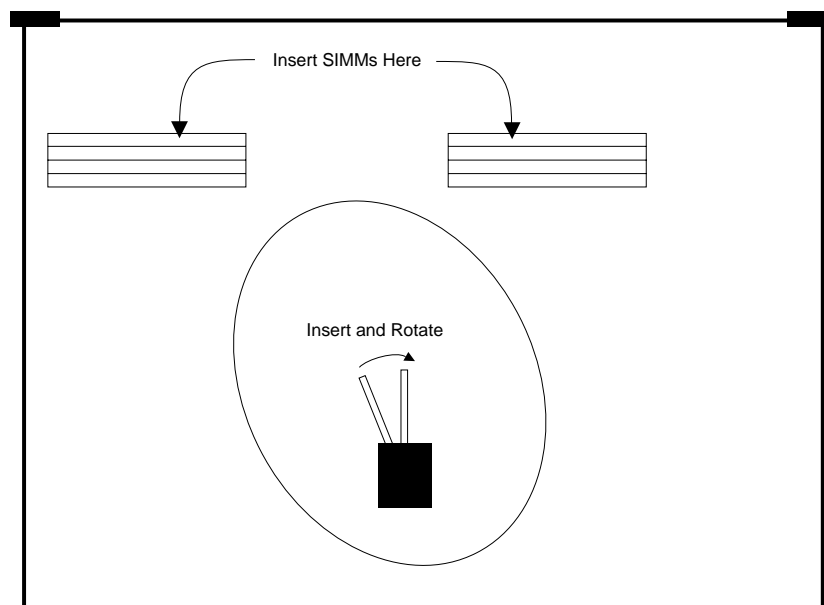

Figure 2-24. Memory Installation
2. Insert the two SIMMs into the provided sockets (Figure 2-24).